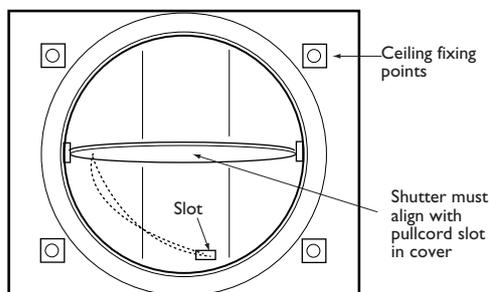

Fig. 2 The correct shutter alignment as supplied.
1. Note the position of the cover cord slot aligns with the shutter (see fig 2). Mark the frame and cover to ensure correct re-positioning later. Carefully unclip and remove the front cover, this is a push fit onto the grille frame. Withdraw the pullcord ends and lay the cover aside.
4. Affix the unit to the ceiling. Pass the pullcord ends through the cover and clip the cover onto the unit (See fig 2).
If the unit is dismantled it is vital that the position of the pull cord relative to the shutter is maintained otherwise shutter operation will be impaired. (See fig 2).
Is the cover is correctly aligned ? (see fig.2).